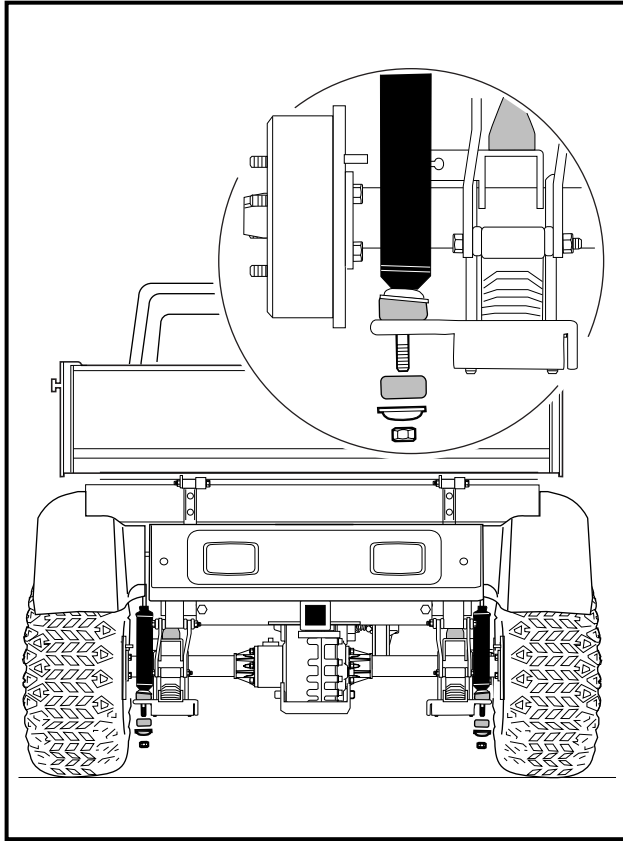

Figure 16-24 Shock Absorbers
6. Remove the lower shock mounting hardware from both rear shocks (**Figure 16-24, Page 16-12**).